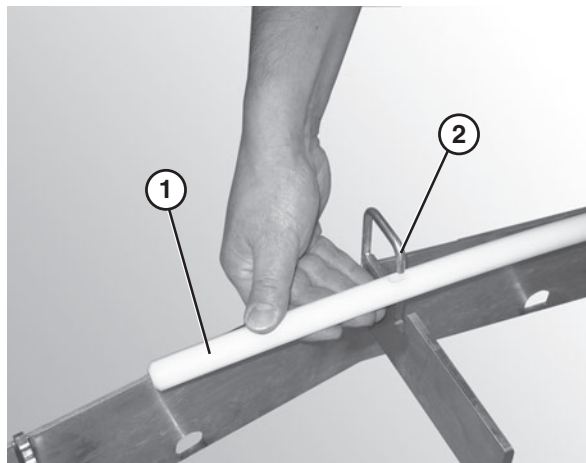

Figure 35
2. Attach the hold down wear strip (**Figure 35, item 1**) to the frame hooks (**Figure 35, item 2**) on the outside of the frame.